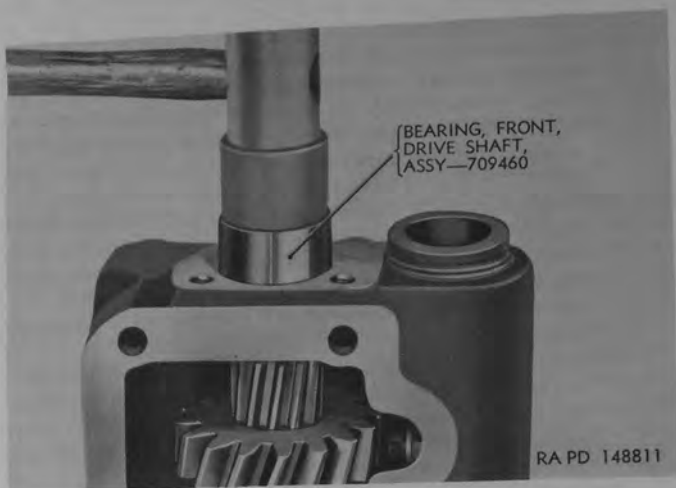

Figure 100. Installing drive shaft front bearing assembly.
- (1) With a suitable tool, remove drive shaft front bearing assembly (G) from housing. Use care not to damage housing bore.
- (2) Drive new bearing into case, using plastic hammer (fig. 100). Drive bearing assembly into housing one-sixteenth of an-inch from outer surface housing.